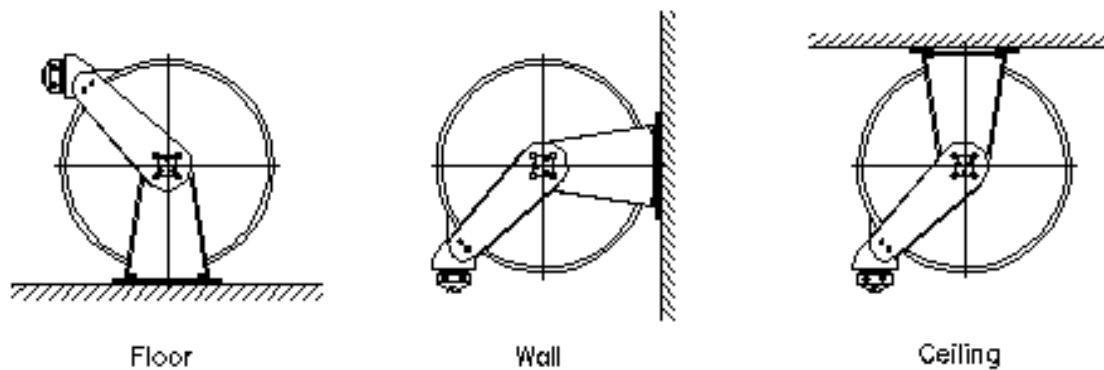

Figure 2
- 1) The reel base has four 12mm (1/2") drilled holes for mounting on a suitable flat surface. Figure 2 is a template showing the correct location of the 4 mounting holes in the base.